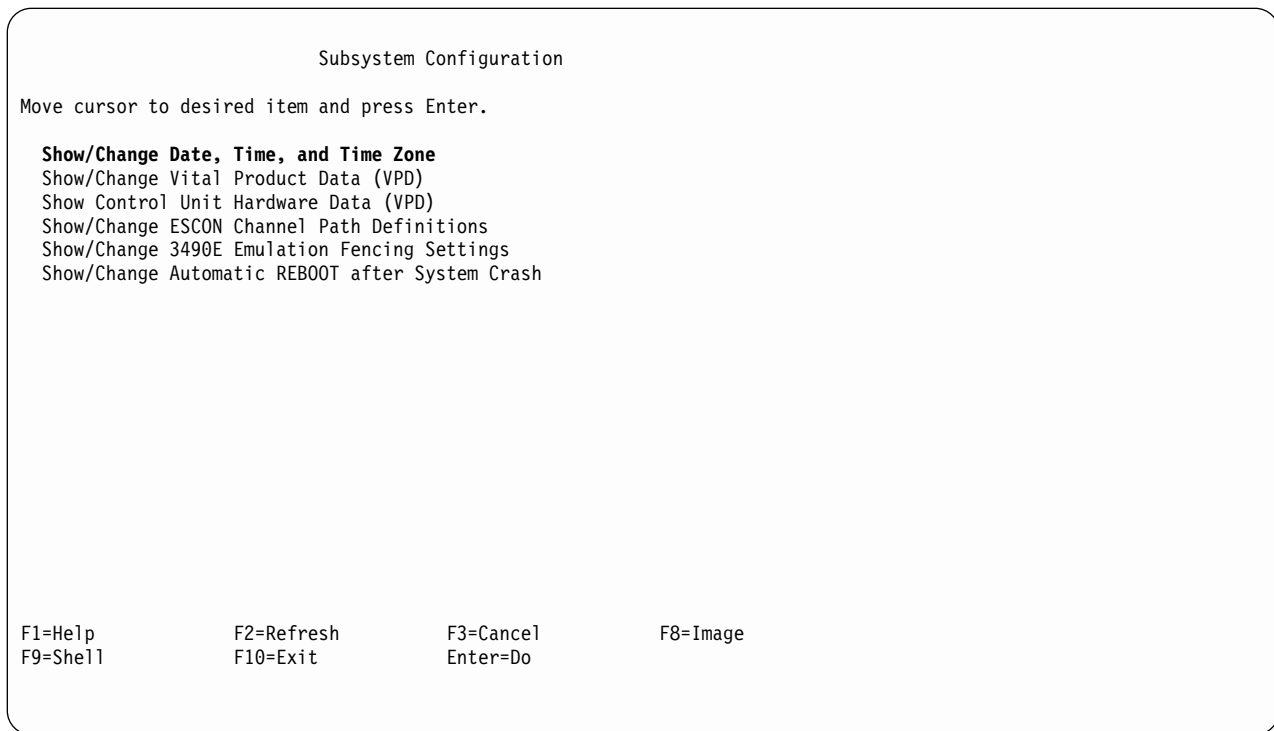

Figure 11-19. Subsystem Configuration
3. Select the **Show/Change Date, Time, and Time Zone** (see Figure 11-19 on page 11-38). Press **ENTER**.